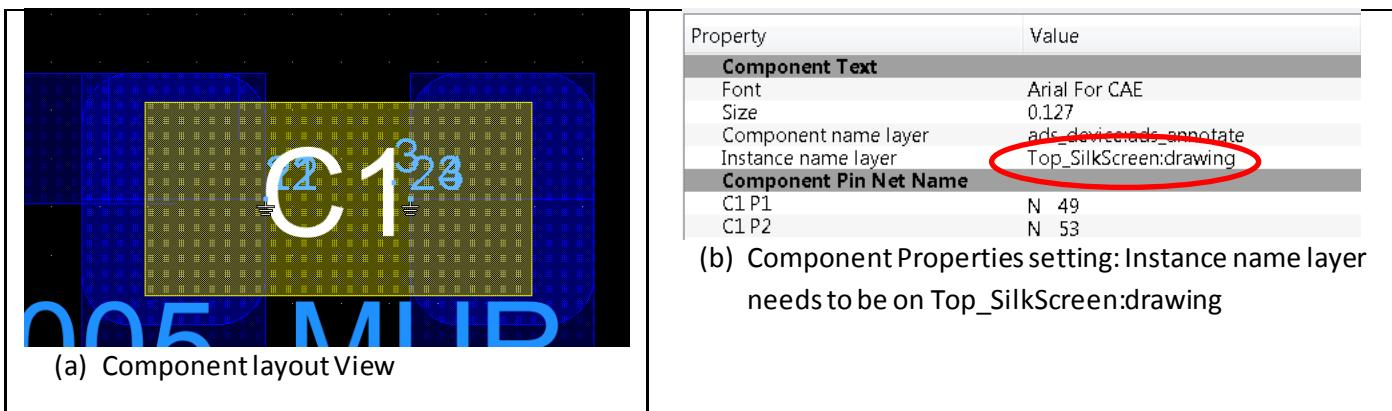

Figure 47 Required SMD/bondwire component settings for component placement drawing
- All component texts on layer Top_SilkScreen (needs to be aligned with BOM and also includes the Bondwire profiles). Figure 47 depicts the required setting for SMD components. It shall be noted that this also applies to bondwire components. Only BOM and bondwire items shall have their instance name on the layer Top_SilkScreen. This is required to provide a component placement drawing